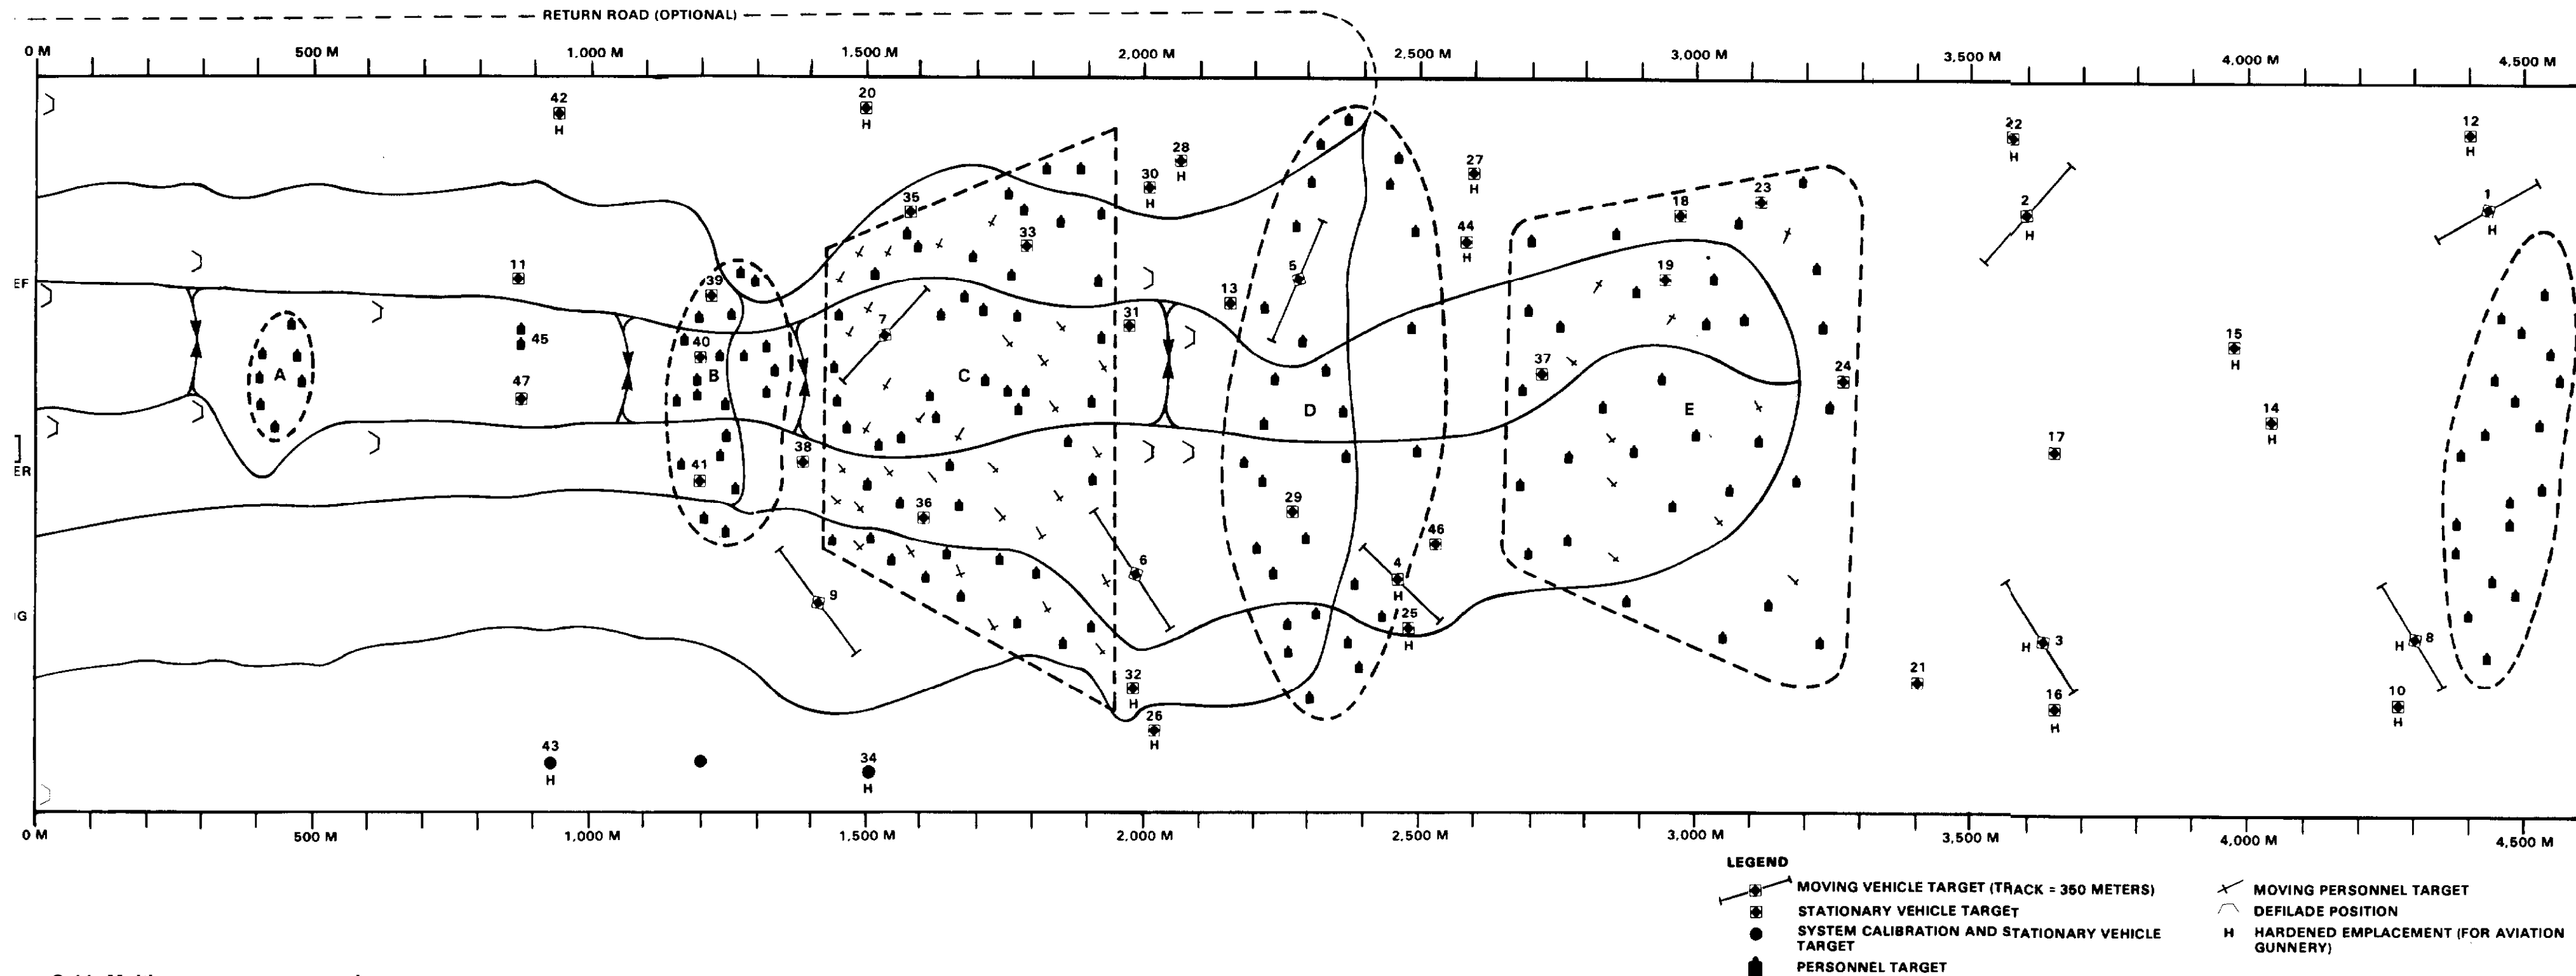

Figure C-11. Multipurpose range complex.
The multipurpose range complex is designed to conduct armor and mobilized machine gun firing. Detailed setup and target configuration is described in FM 25-7; its layout is shown in Figure C-11. This section also discusses the mounted firing exercise, requirements for crews, rating procedures, and standards.
b. System calibration targets must be provided at ranges of 950, 1,200, and 1,500 meters, as shown in Figure C-11.